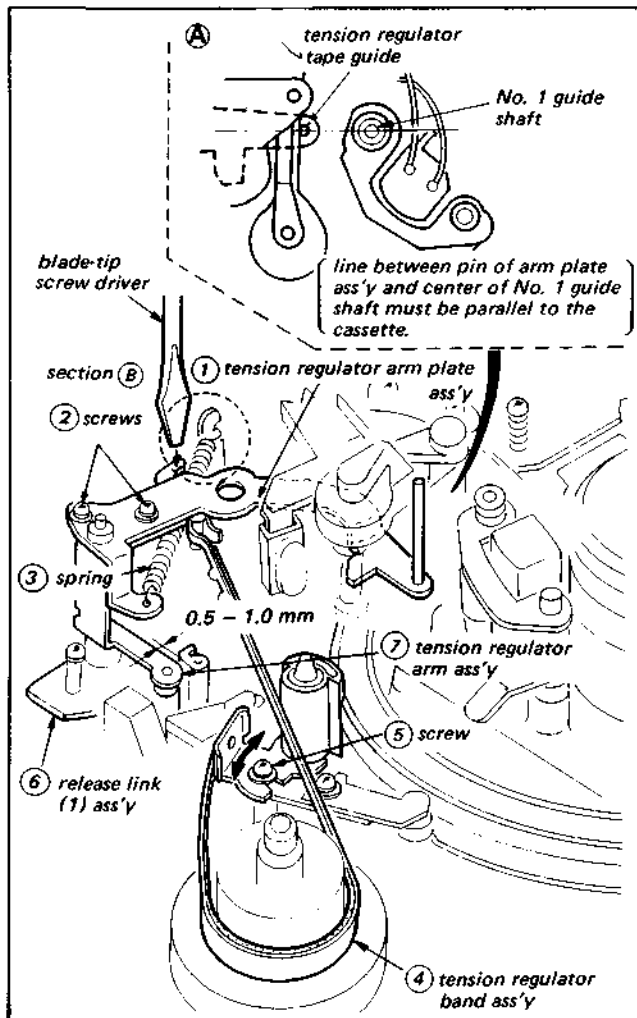

Fig. 3-11. Replacement and adjustment (1) of tension regulator arm plate assembly
1. The tension regulator arm plate can be removed after removing two screws (2) and spring (3) shown in Fig. 3-11.
- (iii) Loosen screw (5) that mounts tension regulator band assembly (4) as shown in Fig. 3-11. Move tension regulator band assembly (4) in the arrow direction, and tighten screw (5) tentatively when the condition shown in (A) is set up.
- (iv) Insert a standard blade-tip screwdriver into section (B), adjust the clearance between release link (1) assembly (6) and tension regulator arm assembly (7) shown in Fig. 3-11, to be 0.5 to 1.0 mm, and tighten screw (2).
- (v) Repeat Steps (iii) and (iv) again and tighten screws (2) and (3).